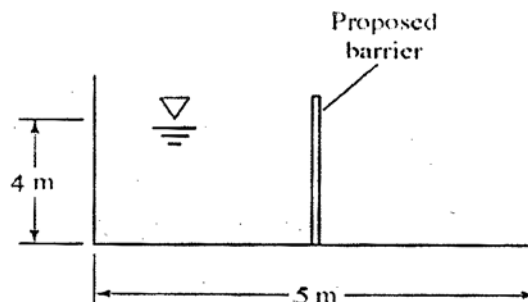

Fig. Q6.
- OR** (b) The finished concrete channel as shown in Fig. Q6 is designed for a new flow rate of $14 \text{ m}^3/\text{s}$ at a normal depth of 4 m. Determine (i) the design slope of the channel and (ii) the percentage of reduction in flow if the surface is Natural streams. Assume, $n \approx 0.012$ for the finished concrete channel and $n \approx 0.035$ for natural streams. (10+10)